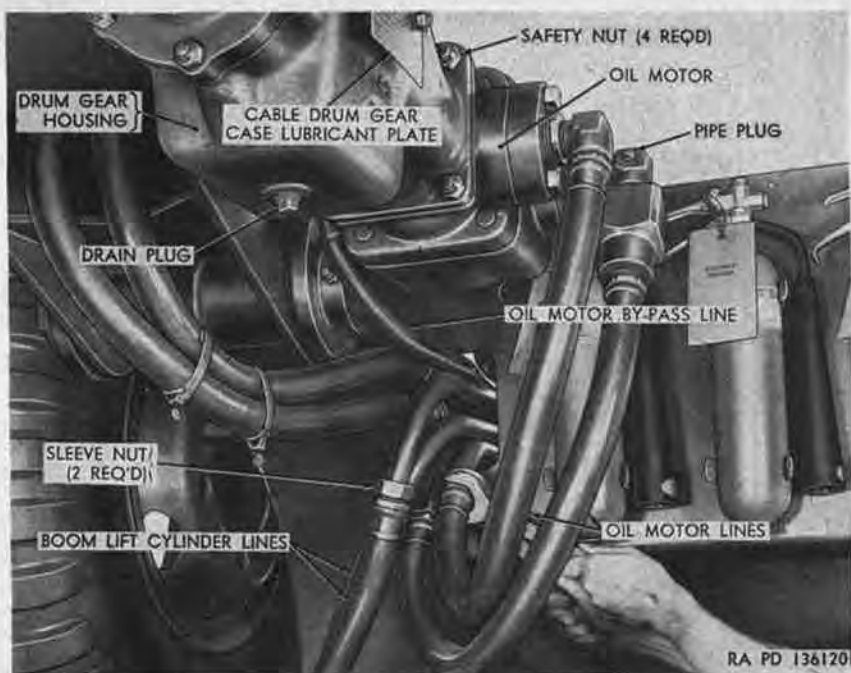

Figure 297. Disconnecting boom hoist hydraulic oil motor lines M62.
- (1) Remove pipe plug (fig. 297) from elbow at boom hoist hydraulic oil motor, and install hydraulic pressure gage in hole in elbow.